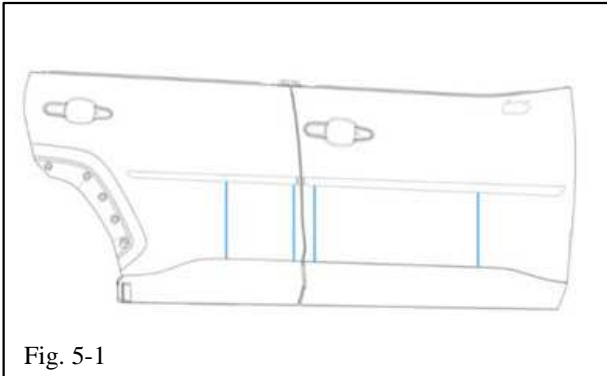

Fig. 5-1
- (c) Carefully holding the rear molding, align the molding on the marked locations. Peel away the liner beginning from the middle of the vehicle (Fig. 5-1).